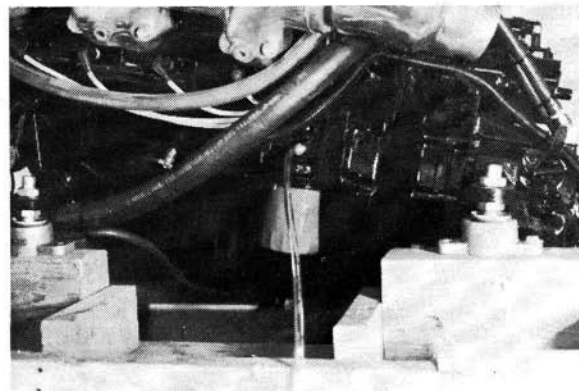

**Figure 10**
**NOTE:** If you are unable to drain the oil through the oil pan drain plug: remove the oil dip stick and pump the oil out of the engine via a plastic tube inserted in the dip stick tube. (See Figure 10)